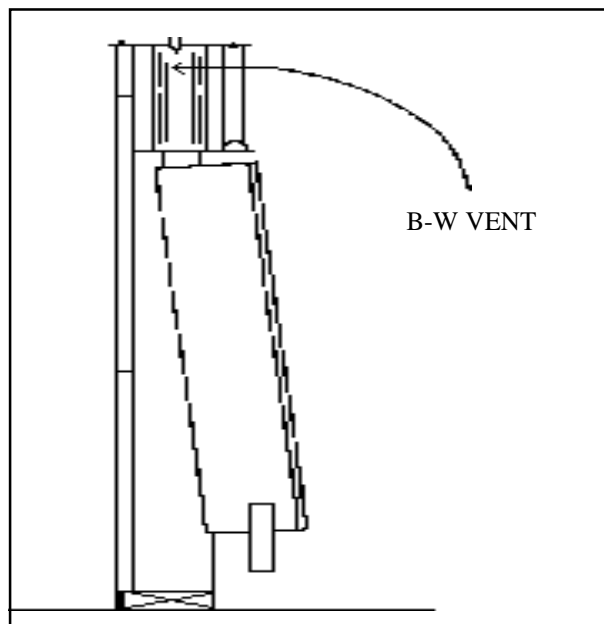

FIGURE 3
**STEP 6.** To place furnace into position, grasp furnace and lift so furnace flue vent and header plate vent opening engage. Do not use burner or gas control to lift heater. Lift furnace upward and swing bottom into wall opening until legs rest on floor plate and are flush to finished wall. For proper combustion, level heater front to back and side to side. Nail legs to studs. **DO NOT BEND LEGS** as this will put the entire unit into a bind and cause expansion noises (See Figure 3).